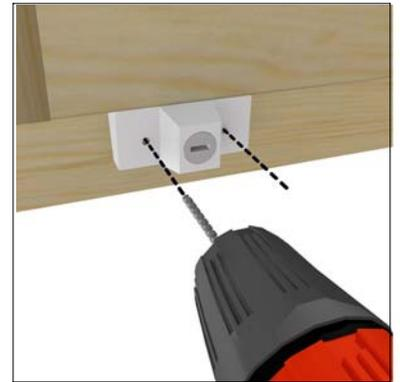

Figure 3
3. Return the sash to the closed and locked position. Drill two 7/64" pilot holes into the frame through the pilot hole guide located on the face of the security lock. See figure 3.